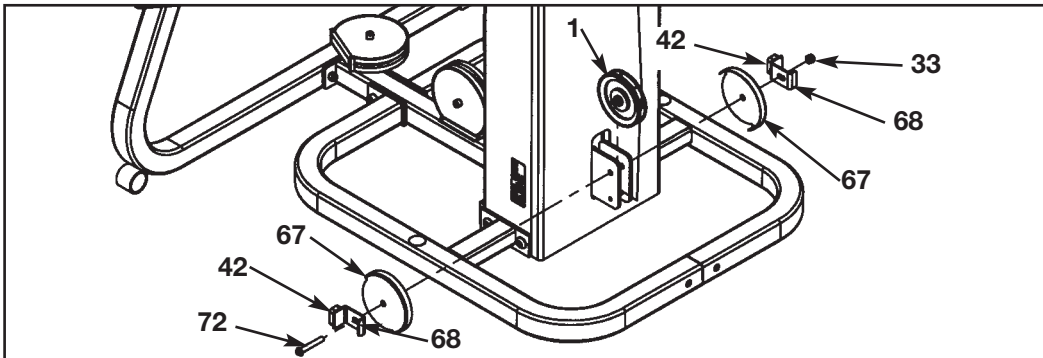

Figure 20
- D. Install lower pulley using one pulleys (#1), one BHSCS .375-16 x 2.50 (#72), one nylon locknut .375-16 (#33), two stop brackets (#68)/bumpers (#42) and two pulley guards (#67). See Figure 20.